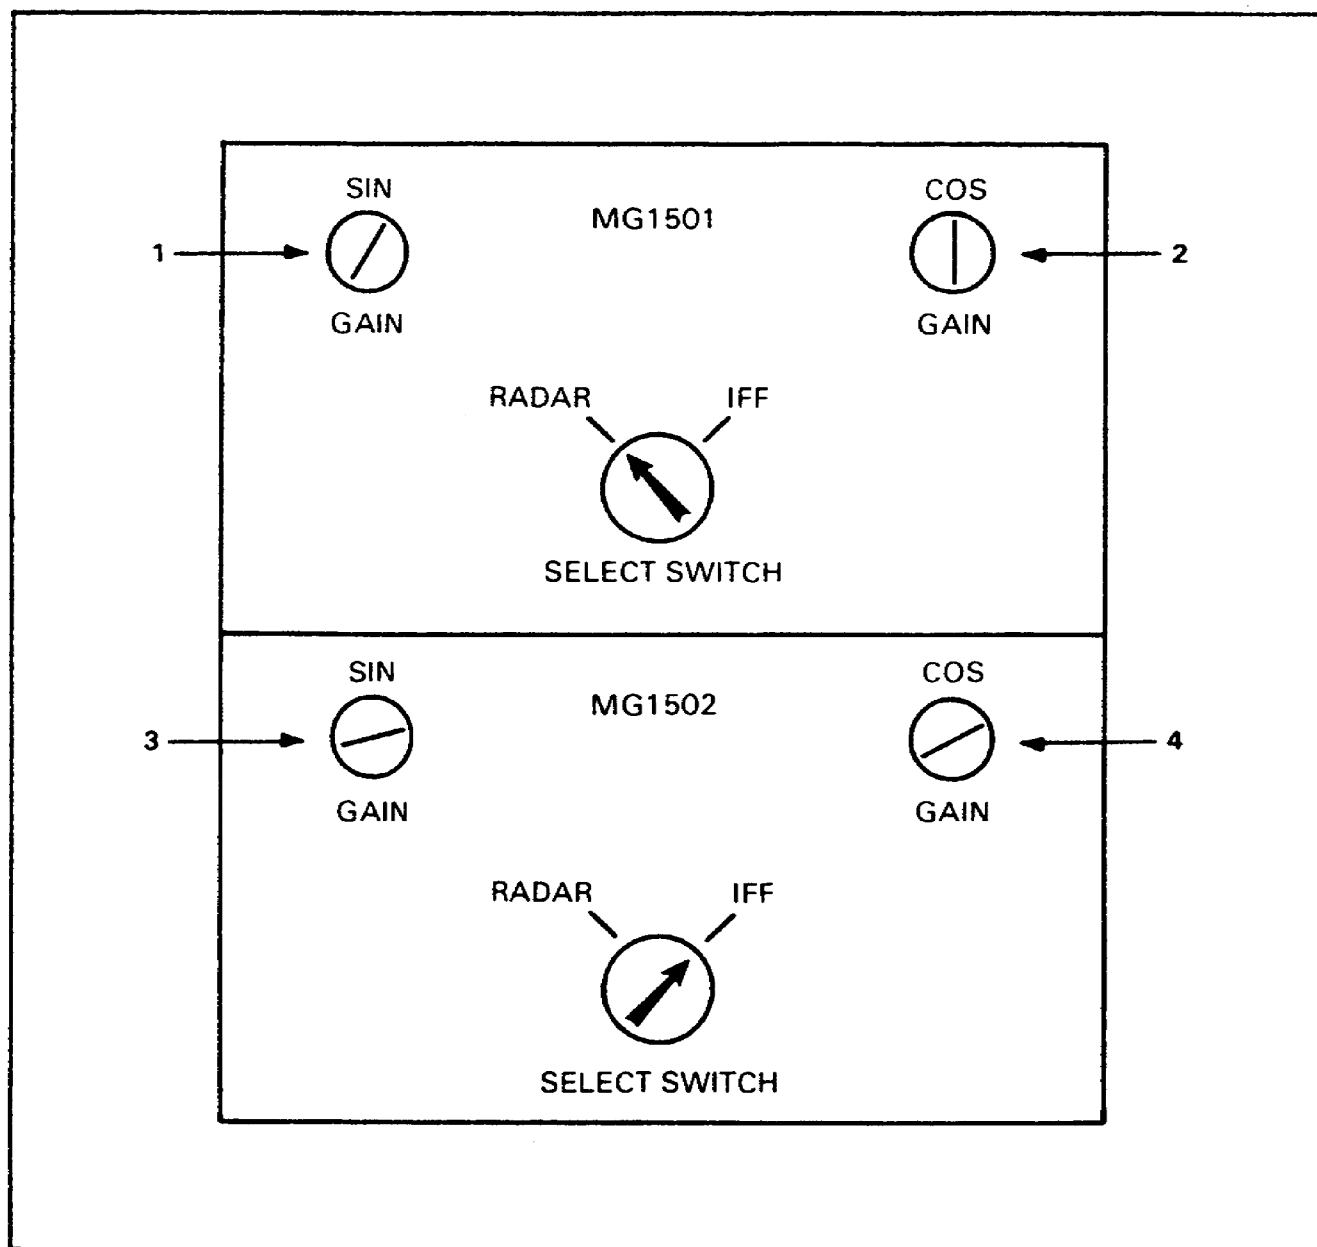

Figure 14. Sine-cosine converters.
e. Place radar-IFF switch on radar sine-cosine converter MG-1501 to radar and place the radar-IFF switch on the IFF sine-cosine converter MG-1502 to IFF. (See Figure 14.)